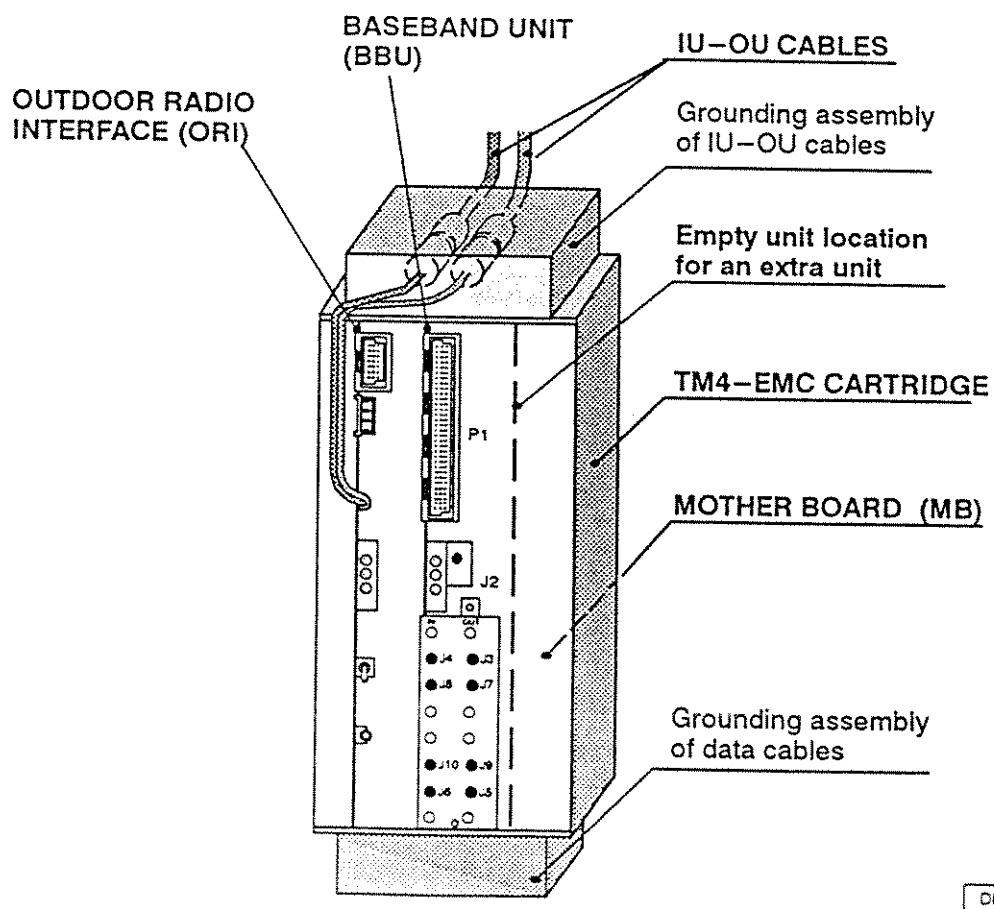

Figure 2 DMR 4x2-38W Indoor Unit, main parts
The main parts of the Indoor Unit of the DMR 4x2-38W are illustrated in *Figure 2*. The TM4-EMC cartridge is housed with Outdoor Radio Interface (ORI) and 4x2 Mbit/s Baseband Unit (BBU). The interunit signals pass via the cartridge Motherboard (MB).